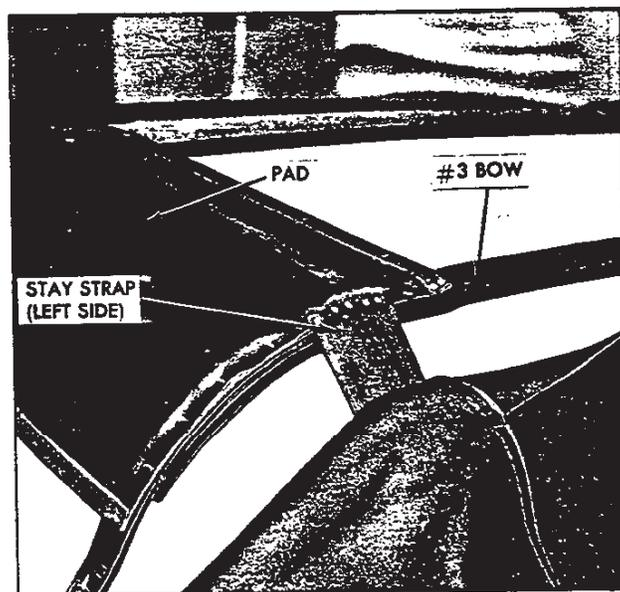

Fig. 70—Installing Stay Strap
5. Lock down rear bow in desired "top up" position. Pull up stay straps and staple or tack to #3 bow (fig. 70).